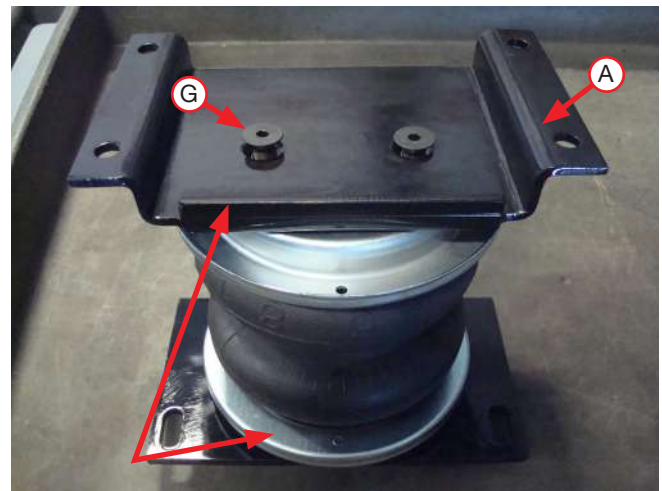

Fig. 8
2. Set the upper air spring bracket (C) onto the air spring assembly and attach with flat head screws (G) (Fig. 8). Torque to no more than 20lb.-ft. (27Nm).